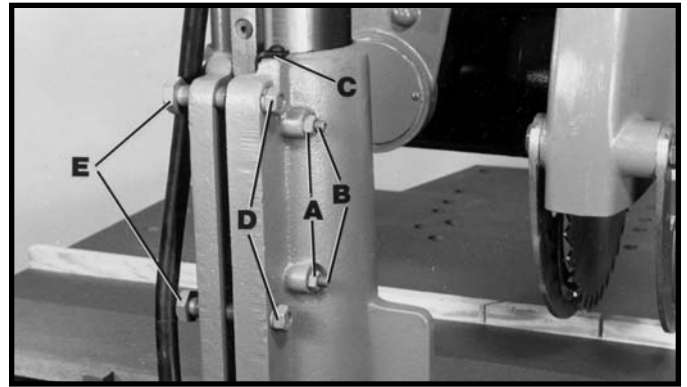

Fig. 31
2. Loosen hex nuts (A) and gib adjusting screws (B) and (C) Fig. 31.
3. Loosen nuts (D) Fig. 31, and adjust bolts (E), so that base wraps around column securely. If column is tight in base, turn bolts (E) clockwise to loosen. **IMPORTANT:** Turning bolts (E) clockwise will open the base jaws, while turning bolts (E) counterclockwise and tightening nuts (D) will close the base jaws. Check elevation by turning crank handle, making sure the column moves up and down without binding.
4. Tighten screws (B) Fig. 31, against the column gib until all side motion disappears in over-arm.
5. Securely lock hex nuts (A) while holding screws (B) and tighten screw (C).